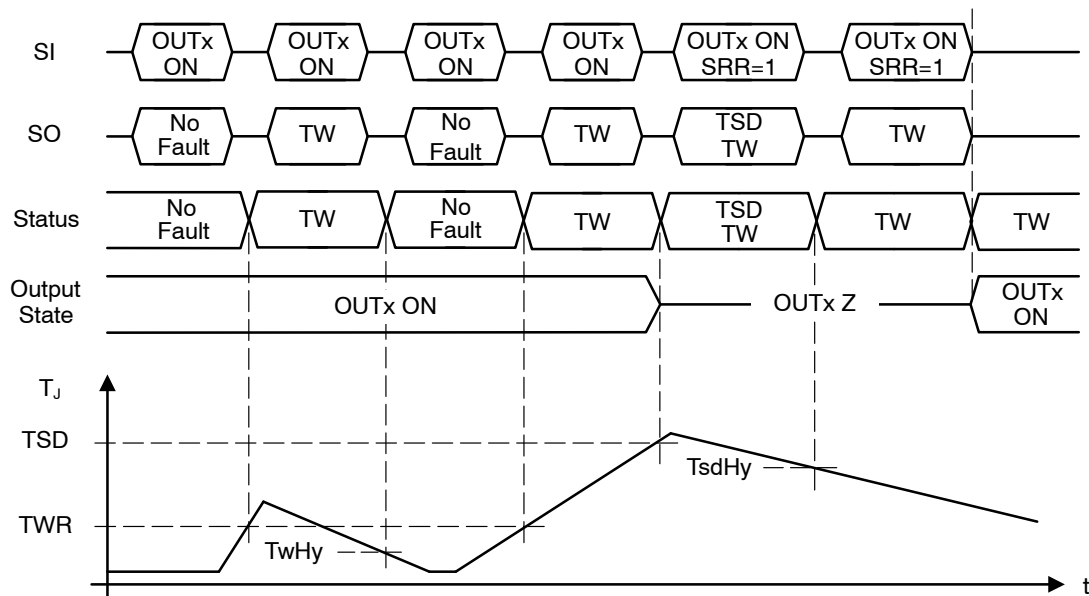

Figure 23. Thermal Warning and Shutdown Timing
Thermal warning (TW) and thermal shutdown (TSD) detection and control are provided for each half-bridge by monitoring the driver pair's thermal sensor. Thermal hysteresis is provided for each of the warning and shutdown functions to ensure clean detection transitions. Since TW notification precedes TSD, software polling of the TW bit enables avoidance of thermal shutdown. Thermal warning and shutdown timing is shown in Figure 23.